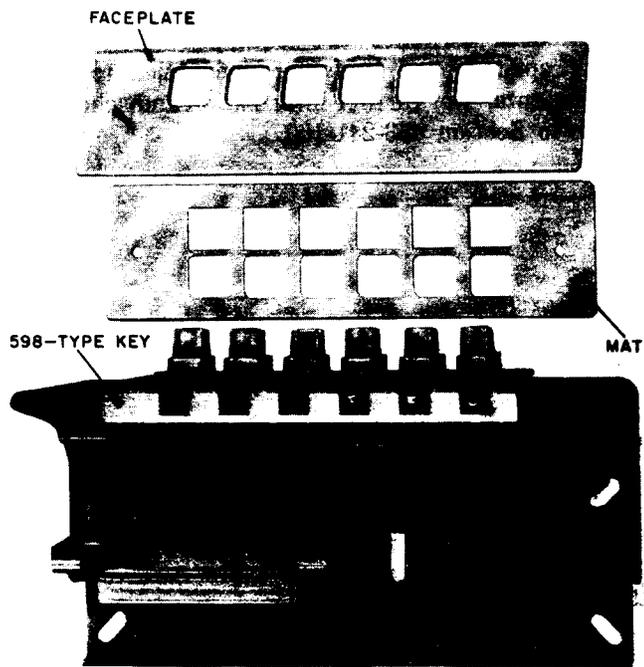

Fig. 12—397A Key Mounting With 598-Type Key Installed (Cover Removed)
**2.33** The *397A* key mounting (Fig. 12) consists of a metal frame, plastic housing, clear plastic faceplate, and five paper mats for a choice of color contrasts. The mat colors are silver, gold, blue, green, and cream white. The key mounting is used to secure a 598- or 599-type key to the customer housing. For button color information, refer to Section 512-230-100. Refer to Section 512-210-401 for connection information.